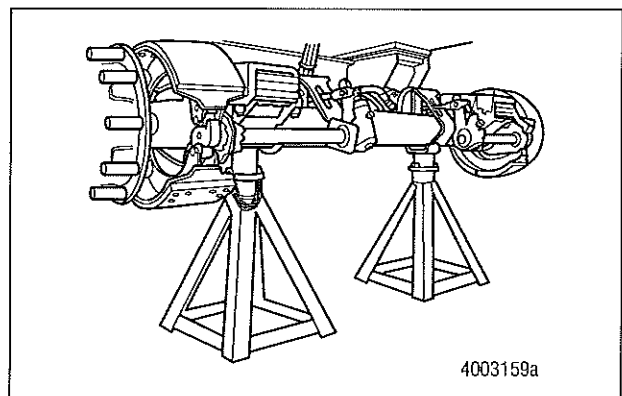

Figure 1
3. Place safety stands under the trailer frame or under each axle spring seat. Figure 1.